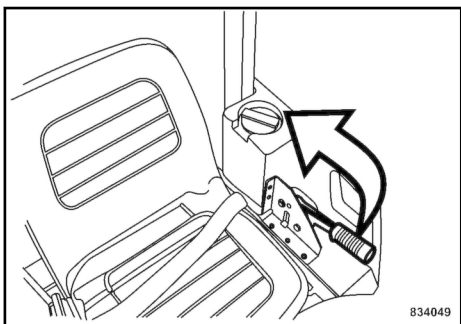

Fig. 124
2. Pull up the parking brake lever. ↪ Fig. 124.